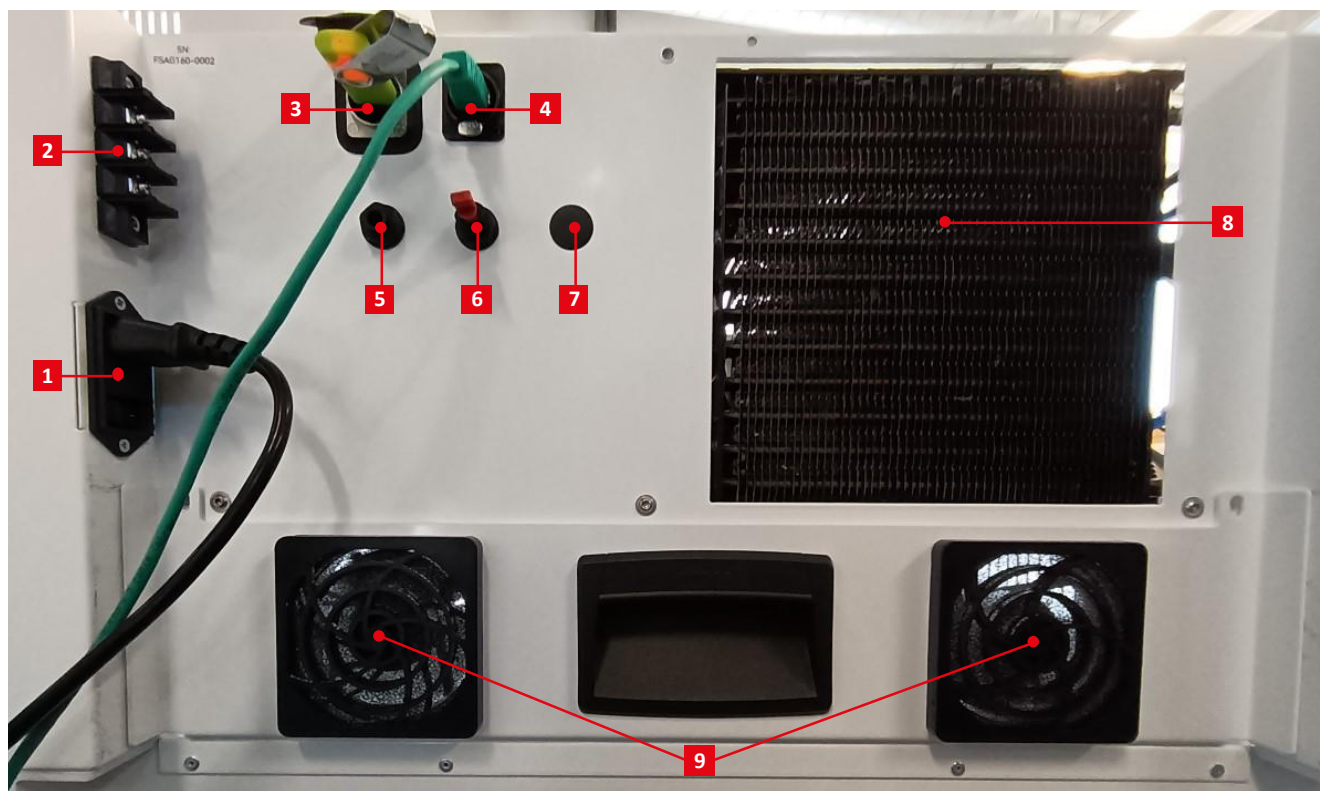

Fig. 3 FytoScope/AlgaeTron 160/300 rear panel.
- Connect the provided USB flash disc to the respective port (see Fig. 3).